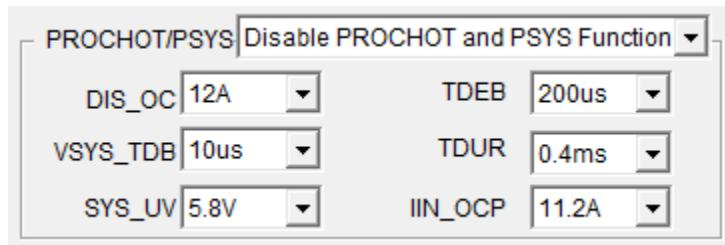

Figure 23: PROCHOT And PSYS Function
- Set the PROCHOT and PSYS functions (see Figure 23).